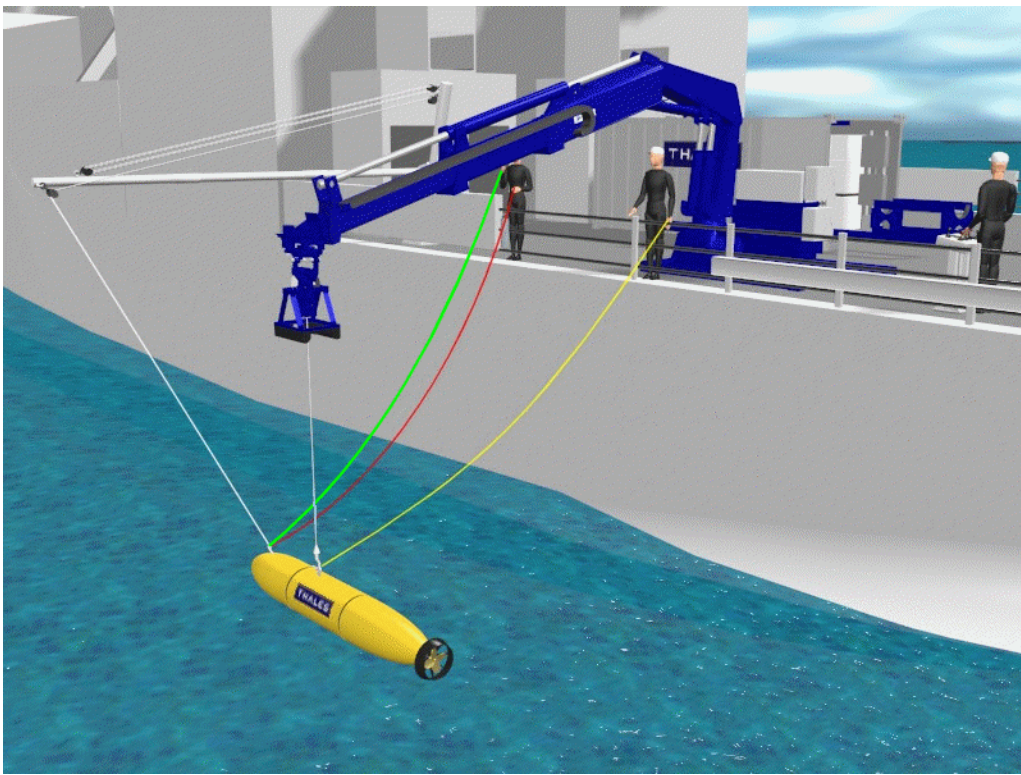

Figure 4-07
24. Commence lowering the AUV into the water. While lowering the tow boom operator maintains sufficient tension on the tow line to prevent yaw and pitch (Figure 4-07).